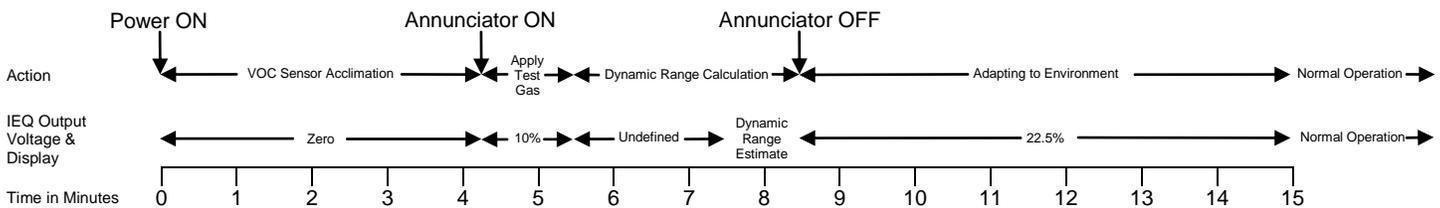

Figure 12: Sensor Start-up Timeline
At each power up, the sensor enters the start-up period for 15 minutes. The main display will show the current temperature and the minor display will show 123 for the first 15 seconds. The IEQ output and display will follow the timing shown in figure 12. Start-up time for the humidity output is 30 seconds, while the outputs for temperature and temperature setpoint are available immediately.
- A. Remove sensor power for at least one minute and reapply. The IEQ sensor will set the IEQ output to zero volts and display units will show zero percent contaminants. (Power ON in figure 12)
- D. The visual indication and the 10% output voltage confirms that the IEQ sensor is in its verification/commissioning test. (Apply Test Gas period in figure 12)
- B. Read and record the IEQ output voltage or LCD display approximately 2 to 4 minutes following the stimulus gas application to determine the dynamic range measurement. (Dynamic Range Estimate period in figure 12)